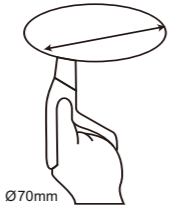

Fig. 2
- Wire the cable according to the wiring diagram shown in Fig. 2.